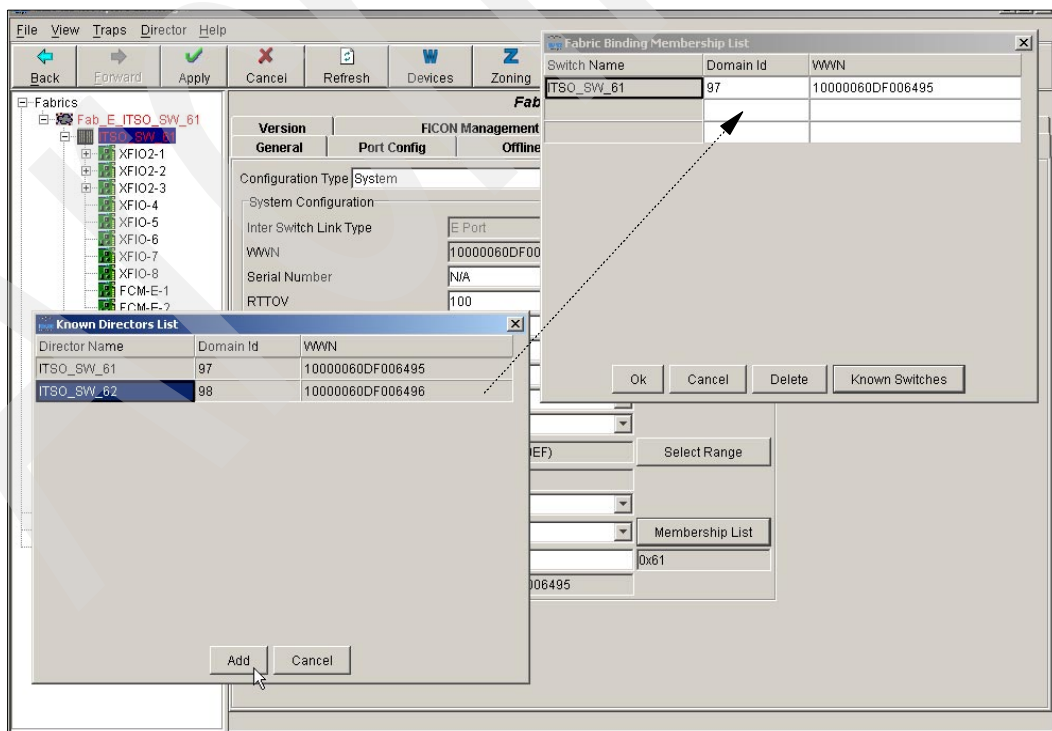

Figure 5-11 Add a Director to the membership list
The new fabric appears under the Fabrics header in the tree view (Figure 5-11).
10. Since the ISLs are already connected, you can use the **Known Switches** button to move Directors into the Fabric Binding membership list (see Figure 5-11). Click the Director you would like to add to the list, then click the **Add** button.